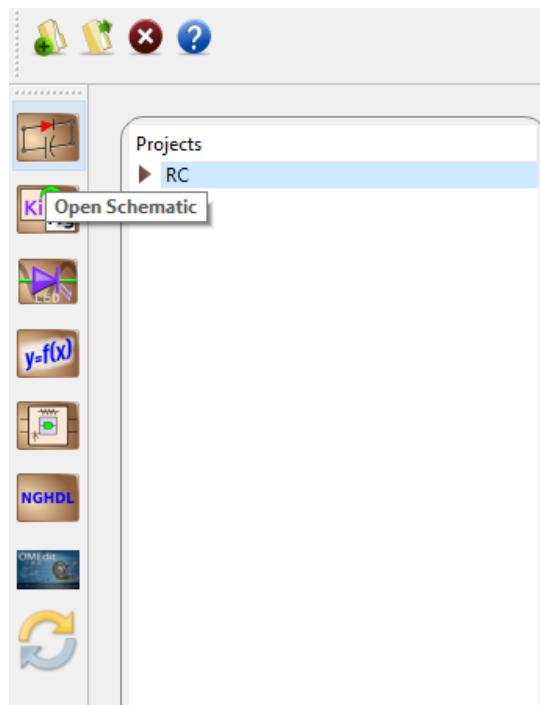
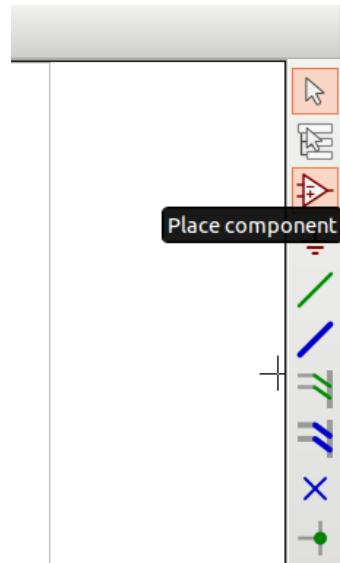

Figure 11.2: Open Schematic Editor
Figure 11.3: Place Component Icon
- Creating the Schematic: To create the schematic, click the very first icon of the left toolbar as shown in the Fig. 11.2. This will open KiCad Eeschema.
To create a schematic in KiCad, we need to place the required components. Fig. 11.3 shows the icon on the right toolbar which opens the component library.
- Creating Schematic: To create the schematic, click the very first icon of the left toolbar as shown in the Fig. 11.2. This will open KiCad Eeschema.
After the KiCad window is opened, to create a schematic we need to place the required components. Fig. 11.3 shows the icon on the right toolbar which opens the component library.
- Creating Schematic: To create the schematic, click the very first icon of the left toolbar as shown in the Fig. 11.2. This will open KiCad Eeschema. After the KiCad window is opened, to create a schematic we need to place the required components. Fig. 11.3 shows the icon on the right toolbar which opens the component library. After all the required components of the inverting amplifier circuit are placed,